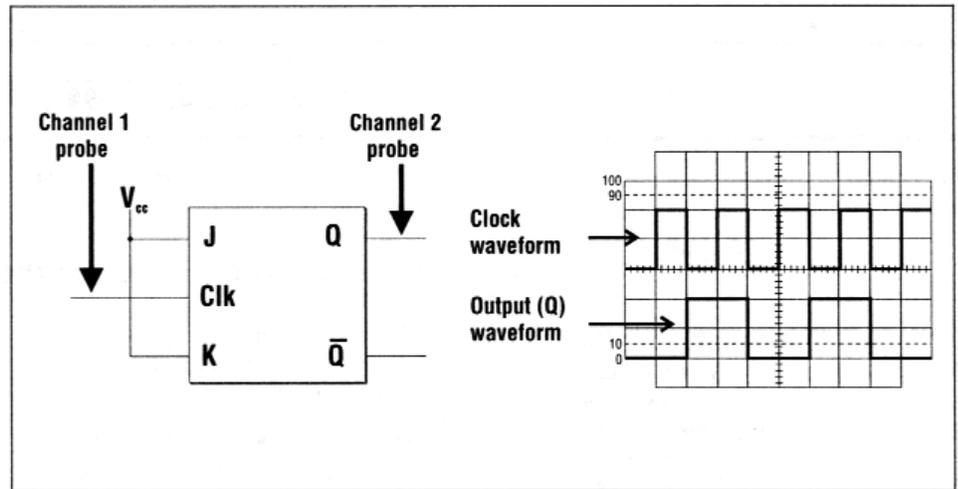

Fig. 5 A simple dual-trace display
The capability of an oscilloscope to display two simultaneous waveforms, dual-trace mode, is a very useful feature. In observing simultaneous waveforms on channels 1 and 2, the waveforms are usually related in frequency, or one of the waveforms is synchronized to the other, although the basic frequencies are different. For example, Fig. 5 depicts the waveforms associated with a simple flip-flop circuit, wherein the first trace shows the clock waveform and the second the output waveform. The scope clearly shows that the output is a divide-by-two of the clock, and that output changes always take place on the negative-going edge of the clock.
4. Adjust the channel 1 and 2 vertical position controls to position the two traces as desired. Channel 1 is usually positioned above channel 2, as in Fig. 5.